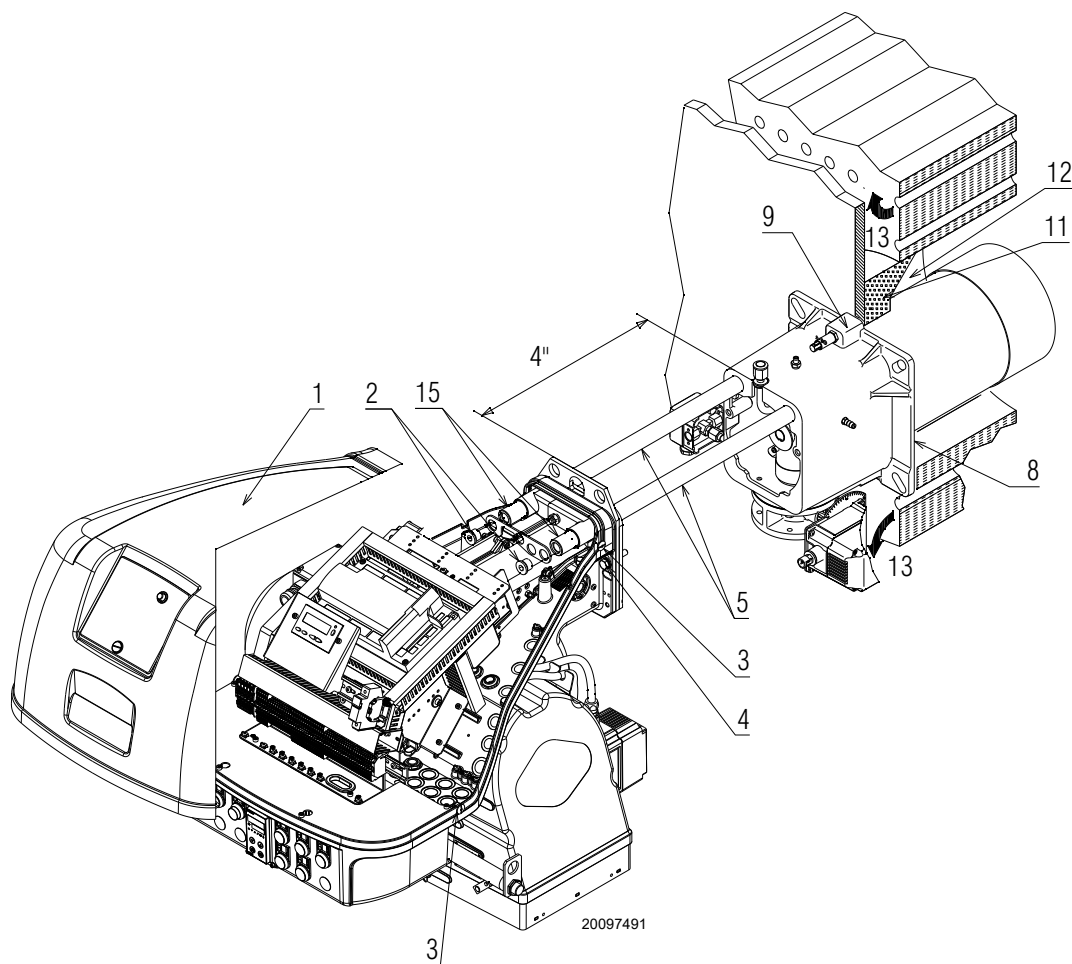

Fig. 12
- For boilers with front flue passes 13)(Fig. 12) or flame inversion chambers, a protection in refractory material 11) must be
- For boilers with a water-cooled frontal, a refractory lining is not necessary 11)-12)(Fig. 12) unless expressly requested by the boiler manufacturer.
- Secure the burner to the boiler, fixing the flange 9)(Fig. 12) to the boiler plate and interposing the insulating gasket 8).
- loosen the 4 screws 3)(Fig. 12) and remove the cover 1);